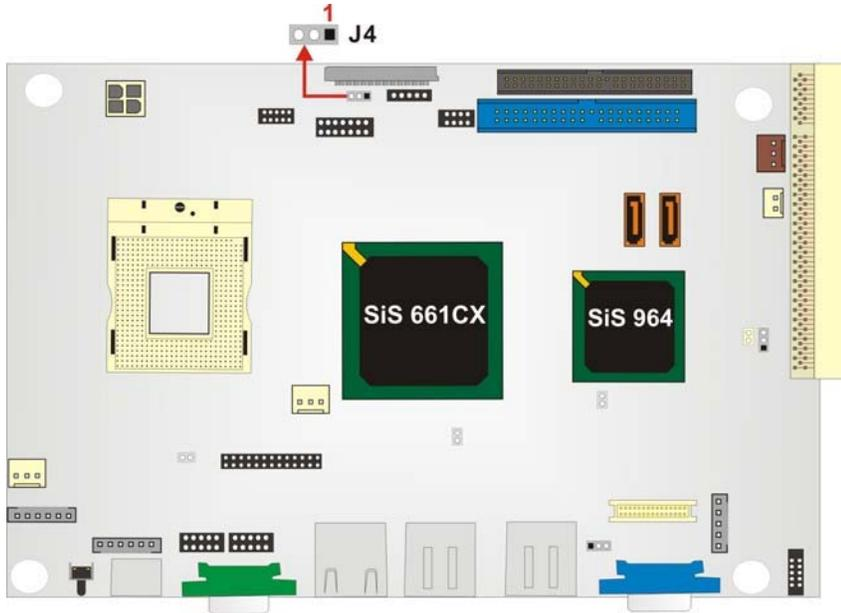

Figure 3-34: J4 Pinout Locations
- Jumper Settings:** See Figure 3-34
The COM2 Setup jumper location is shown in **Figure 3-34** below.